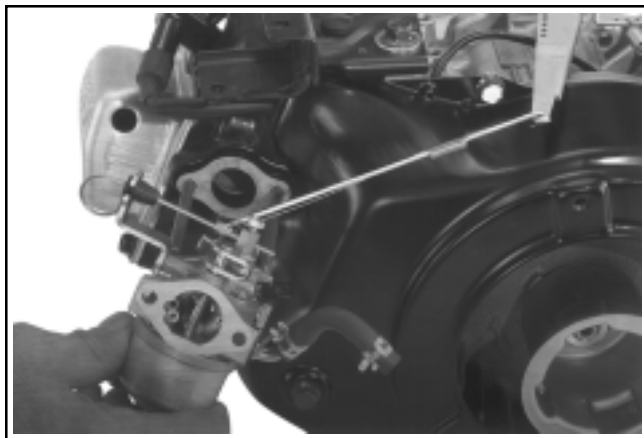

Figure 11-101. CS4, CS6. Assembling Linkage.
2. Tilt the carburetor to hook the throttle link and dampening spring into the hole(s) of the throttle lever. See Figures 11-101 and 11-102.